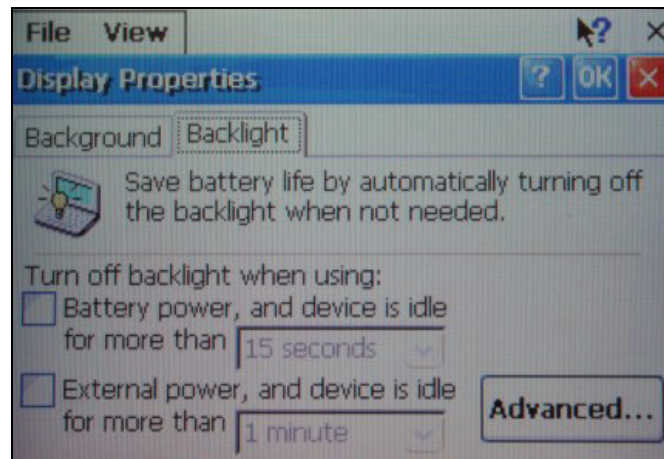

Figure 6-28
- Press on the BackLight Tab. The window will change to the one shown in Figure 6-28.